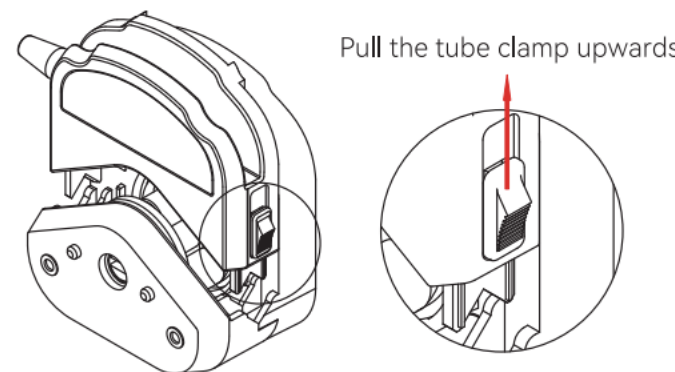

Figure 5 Schematic Diagram of YZ15/YZ25 Pump Head Tube Clamp Operation
- Pull one side of the tube clamp upwards (Figure 5), insert the tube, then pull the other side of the tube clamp, and insert the other side of the tube.